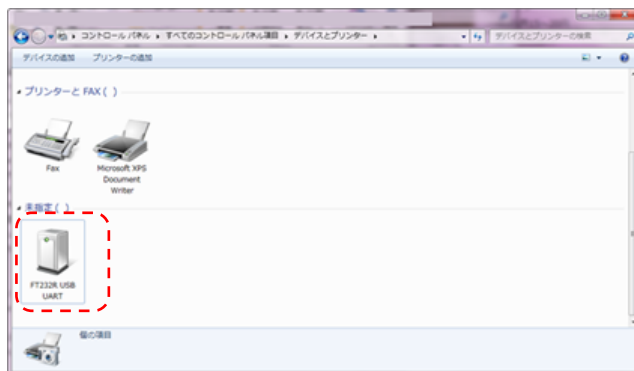

Figure 5 - USB Driver Icon on the "View devices and printers" screen
- (7) Right-click the "FT232R USB UART" USB driver icon and select "Properties" (Figure 5).